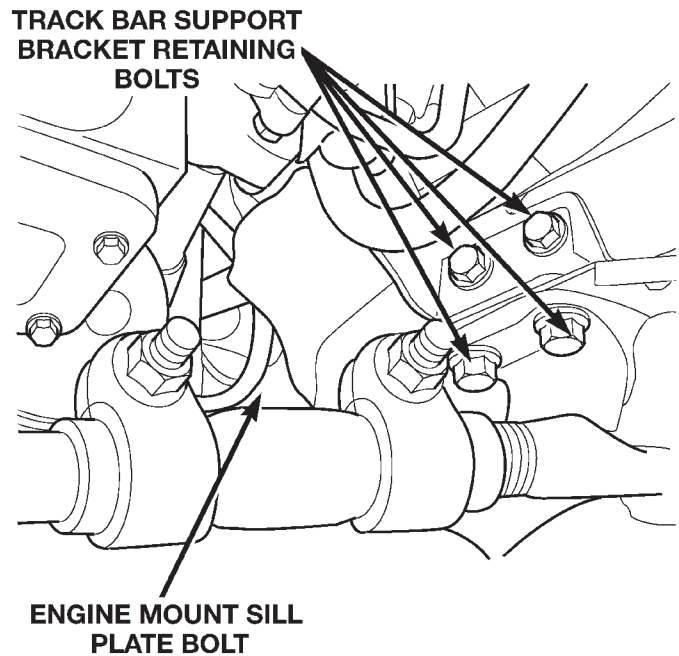

Fig. 11 Left Engine Mount Retaining Bolts
(1) Position the engine mount and bracket and install the engine mount through bolt and nut, leaving them loose at this time.
(2) Install, but do not torque the engine mount lower sill plate bolt and the trackbar support bracket bolts (Fig. 11).
(4) Torque the lower engine mount sill plate bolts to 41 N·m (30 ft. lbs.) (Fig. 11).
(5) Torque the larger trackbar support bracket bolts to 125 N·m (92 ft. lbs.) (Fig. 11).
(6) Remove the jack stand.